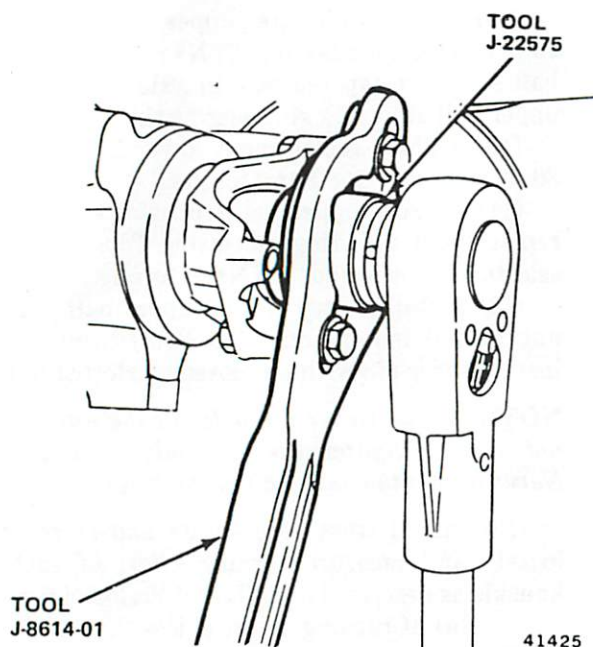

Fig. 2F-3 Pinion Nut Removal
(1) Raise vehicle.
(2) Mark propeller shaft and yoke for assembly alignment reference and disconnect propeller shaft from yoke.
(3) Remove pinion nut and washer using socket, breaker bar, and Tool J-8614-01 (fig. 2F-3).
(4) Remove yoke using Tools J-8614-01, -02, -03 (fig. 2F-4).
(5) Remove pinion seal using Tool J-25180.